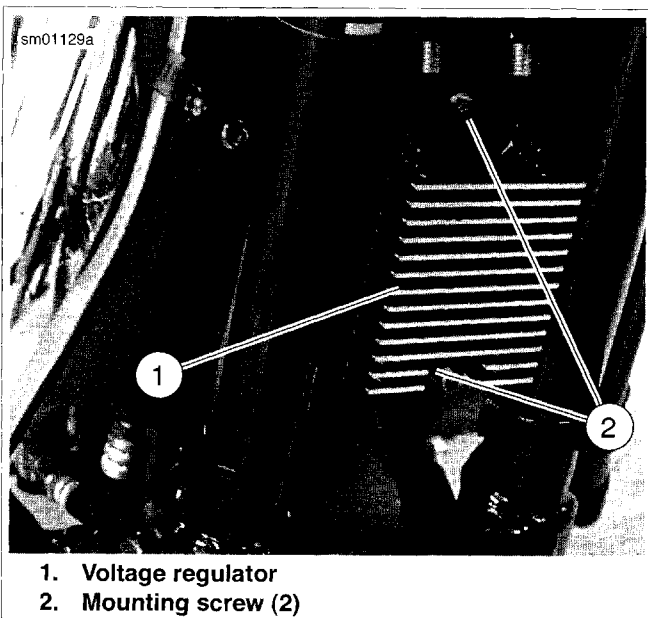

Figure 6-4. Voltage Regulator Location
4. See Figure 6-4. Remove screws (2) from locations at top and bottom of voltage regulator. Remove regulator from vehicle, carefully threading harnesses through opening in regulator mounting bracket.